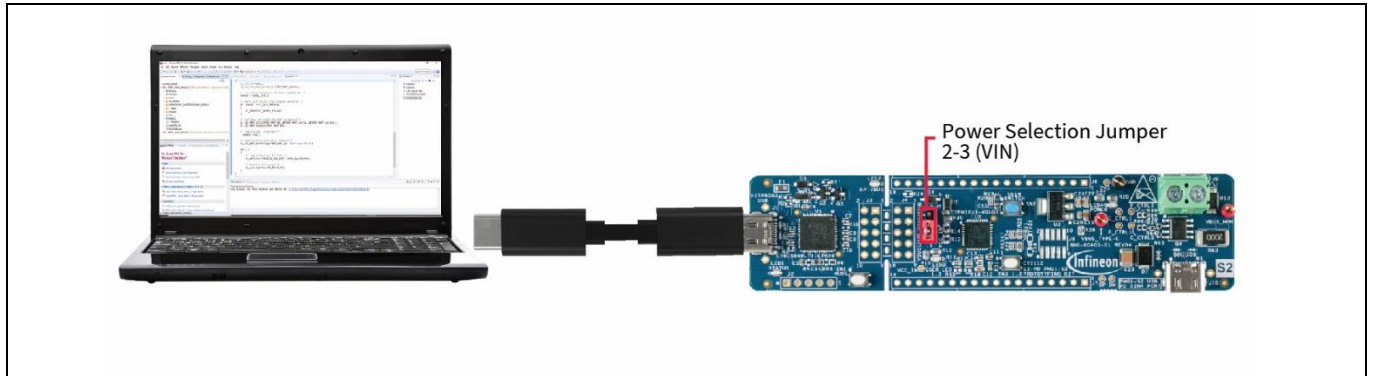

Figure 39 Programming through the KitProg3 interface
KitProg3 is a PSoC™ 5LP MCU-based onboard programming and debugging solution integrated with the EZ-PD™ PMG1 MCU prototyping kits. You can program and debug the kit without using any separate programming and debug module by setting the power selection jumper to short pins 2 and 3 and then connecting the kit to the PC using the programming connector as shown in Figure 39.
2. Connect the prototyping kit to the host PC through the KitProg3 connector. See Figure 39 for the setup.